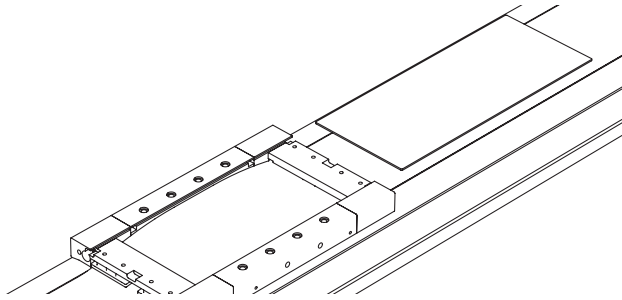

Fig. 7.3 Removing/mounting the carriage cover
- ▶ Remove the carriage cover by pushing it out of the carriage profile (see Fig. 7.3).
- ▶ Mount the carriage cover by inserting it into the groove of the carriage profile and the cover strip deflection (see Fig. 7.3).